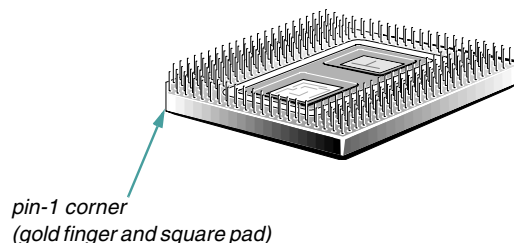

Figure 8-8. Pin-1 Identification
6. Align the pin-1 corner of the microprocessor chip (see Figure 8-8) with the pin-1 corner of the microprocessor socket.